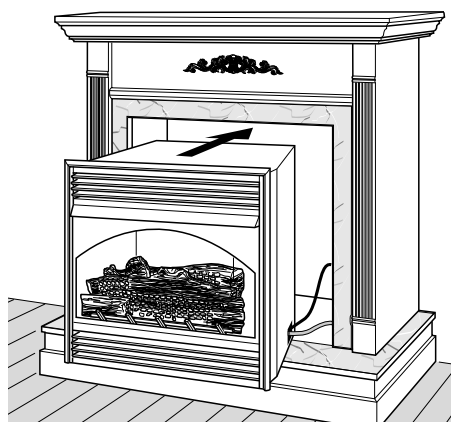

Figure 12 - Inserting Fireplace Into Cabinet Mantel
10. Carefully insert fireplace into cabinet mantel (Figure 12). Be careful not to scratch or damage hearth base, cabinet mantel, or any laminate trim on hearth base. Remove protective material from top of hearth base and from front of fireplace (if any). **Note:** You can secure fireplace to hearth or floor. Open lower louver. Locate screw holes in bottom of base. Tighten wood screws through these holes and into hearth or floor.